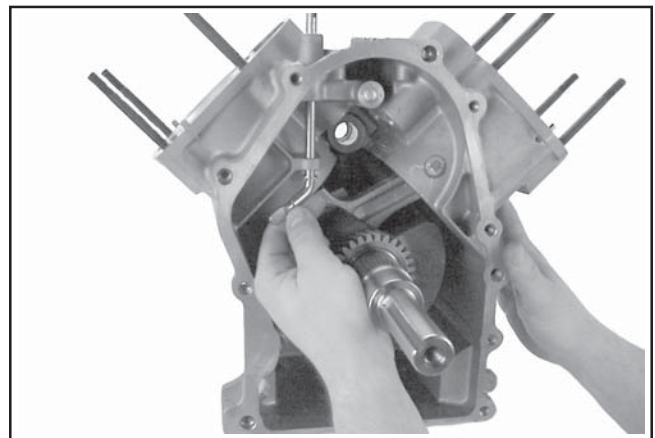

Figure 11-7. Installing Governor Cross Shaft from the Inside.
2. Slide the small lower washer onto the governor cross shaft and install the cross shaft from the inside of the crankcase. See Figure 11-7.